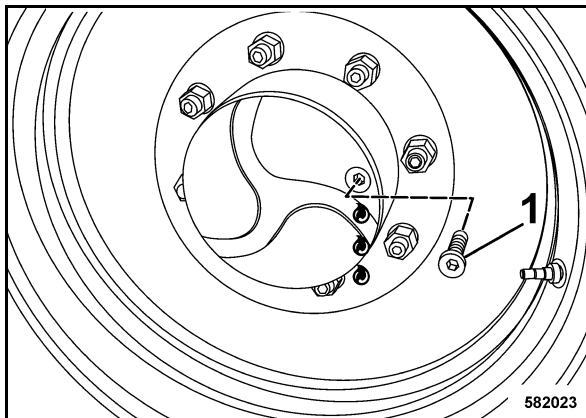

Fig. 130
- Park the machine so that the plug (1) (Fig. 130) is in horizontal position.